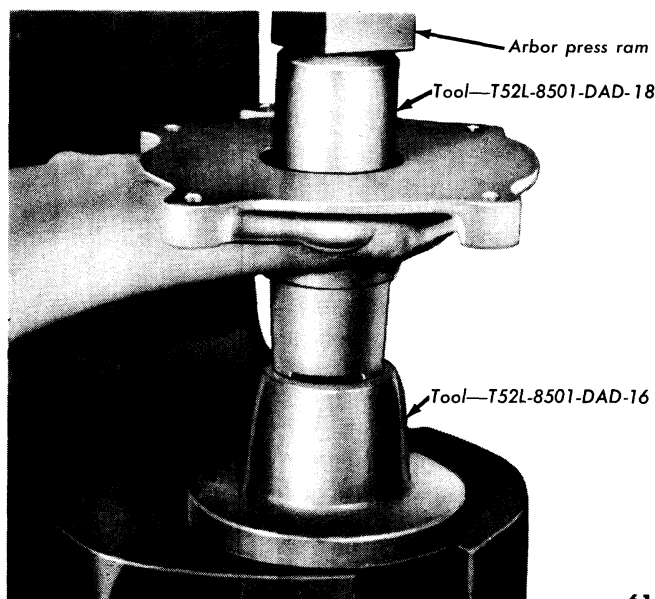

Fig. 85—Seal Installation
(3) **ASSEMBLY.** Clean off any gasket material on the mounting face of the pump and the cylinder front cover. Coat a new seal with a light coating of waterproof sealer. Install the seal in the pump housing as shown in fig. 85.